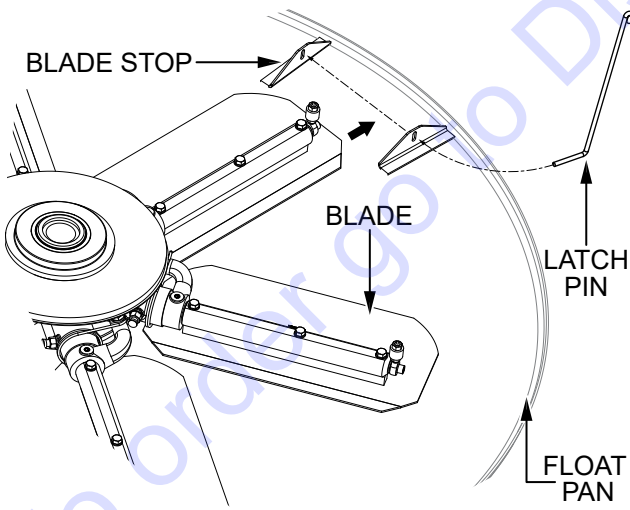

Figure 62. Float Disc Installation (Latch Pins)
1. Lift the trowel just enough to slide a float pan under the blades. Lower the finisher onto the pan with the blades between the blade stops (Figure 62).
2. Route a latch pin through the holes in the blade stops as shown in Figure 62.